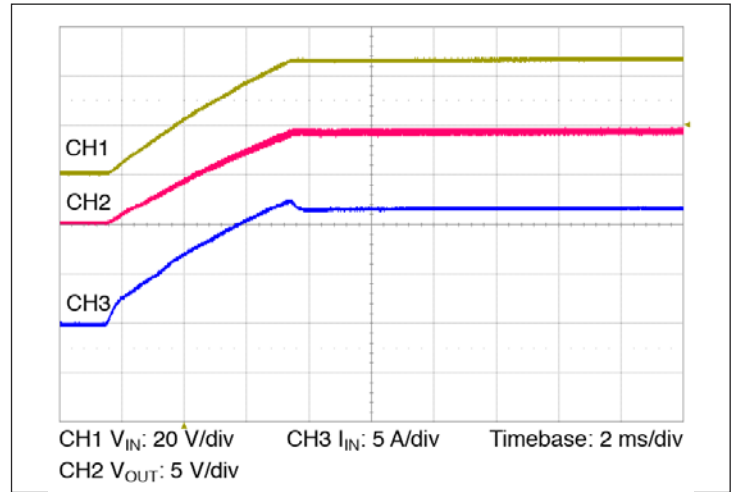

Figure 10 – Start up from application of V_{IN} ; VC pre-applied $C_{OUT} = 1000 \mu F$
- Normal operation (VC applied prior to V_{IN}): In this case the controller is active prior to ramping the input. When the input voltage is applied, the VTM output voltage will track the input (See Figure 10). The inrush current is determined by the input voltage rate of rise and output capacitance. If the VC voltage is removed prior to the input reaching 26 V, the VTM may shut down.